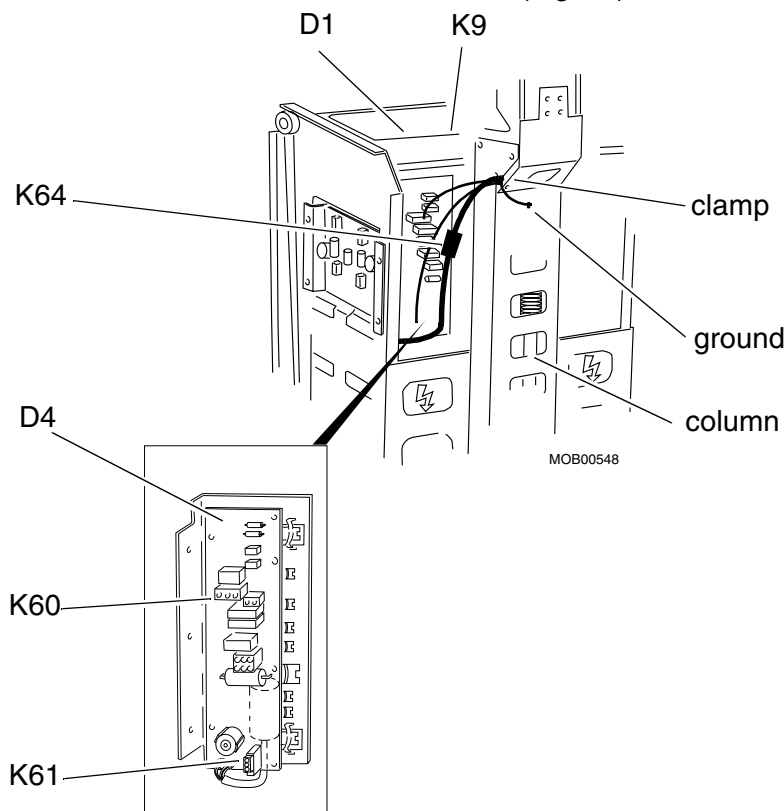

Fig. 13 Cables and connectors
15. Disconnect all cables running in the lower arm joint: K9 from board D1, K60 and K61 from board D4, K64 which is hanging at the side of board D4 and the ground connection on the column cover (Fig. 13).
16. Remove the clamp holding the cables (Fig. 13). The clamp is positioned on the inside of the column cover.
18. Remove the cables in the arm by pulling them out towards the single tank. Especially memorize the way the cables were threaded and fastened in the joint itself. Pull the ground connection shown in Fig. 13 up to the lower arm. Do not remove the ground connection between the upper arm and the lower arm.